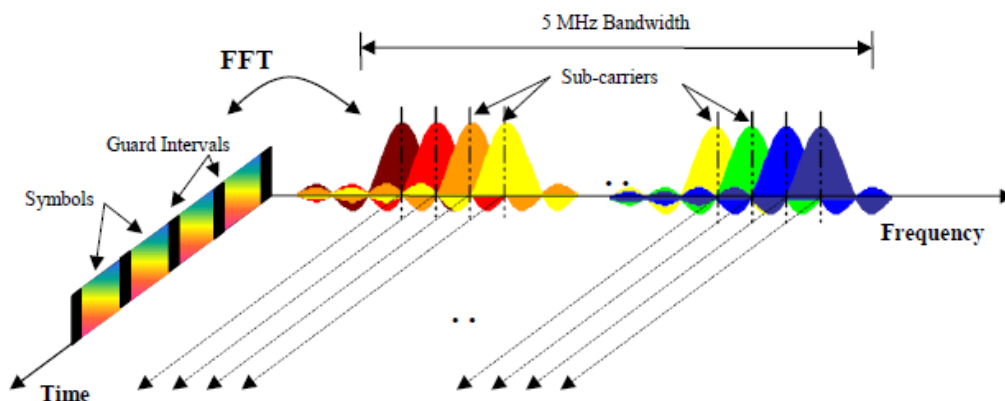

Fig. 2-1: Frequency-Time Representation of an OFDM Signal
figure 2-1 shows a representation of an OFDM signal taken from 3GPP TR 25.892 [2]. In this figure, a signal with 5 MHz bandwidth is shown, but the principle is of course the same for the other EUTRA bandwidths. Data symbols are independently modulated and transmitted over a high number of closely spaced orthogonal subcarriers. In EUTRA, downlink modulation schemes QPSK, 16QAM, and 64QAM are available.
The vector  $s_m$  is defined as the useful OFDM symbol. It is the time superposition of the  $N$  narrowband modulated subcarriers. Therefore, from a parallel stream of  $N$  sources of data, each one independently modulated, a waveform composed of  $N$  orthogonal subcarriers is obtained, with each subcarrier having the shape of a frequency sinc function (see figure 2-1).
One downlink slot consists of  $N_{symb}^{DL}$  OFDM symbols. To each symbol, a cyclic prefix (CP) is appended as guard time, compare figure 2-1.  $N_{symb}^{DL}$  depends on the cyclic prefix length. The generic frame structure with normal cyclic prefix length contains  $N_{symb}^{DL} = 7$  symbols. This translates into a cyclic prefix length of  $T_{CP} \approx 5.2 \mu s$  for the first symbol and  $T_{CP} \approx 4.7 \mu s$  for the remaining 6 symbols. Additionally, an extended cyclic prefix is defined in order to cover large cell scenarios with higher delay spread and MBMS transmission. The generic frame structure with extended cyclic prefix of  $T_{CP-E} \approx 16.7 \mu s$  contains  $N_{symb}^{DL} = 6$  OFDM symbols (subcarrier spacing 15 kHz). The generic frame structure with extended cyclic prefix